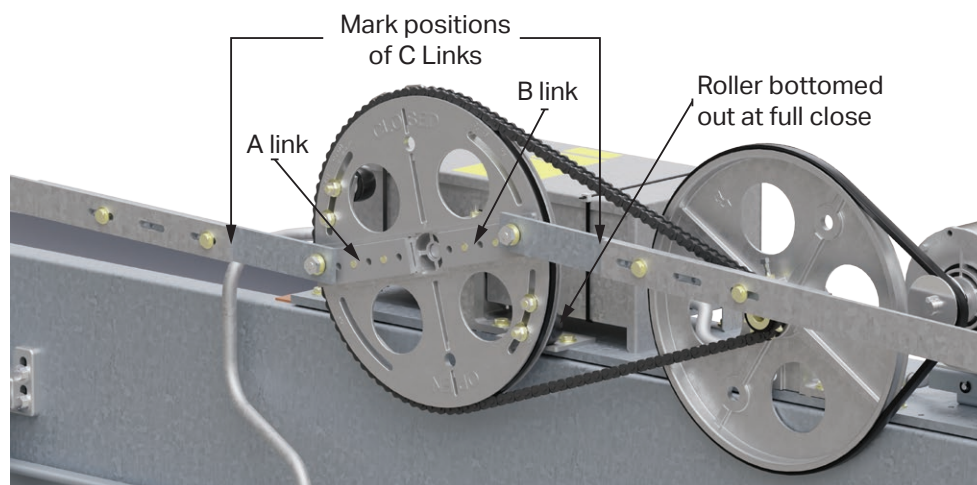

Figure 21: Mark C Links
12. Adjust the C-links so the clutch and door bracket springs will fully compress when the operator drive wheel bumper is bottomed out. Mark C-link positions. (See **Figure 21**)
14. Fully close the car door and adjust the A and B-links so the clutch and door bracket springs will fully compress when the operator drive wheel bumper is bottomed out. (See **Figure 21**)